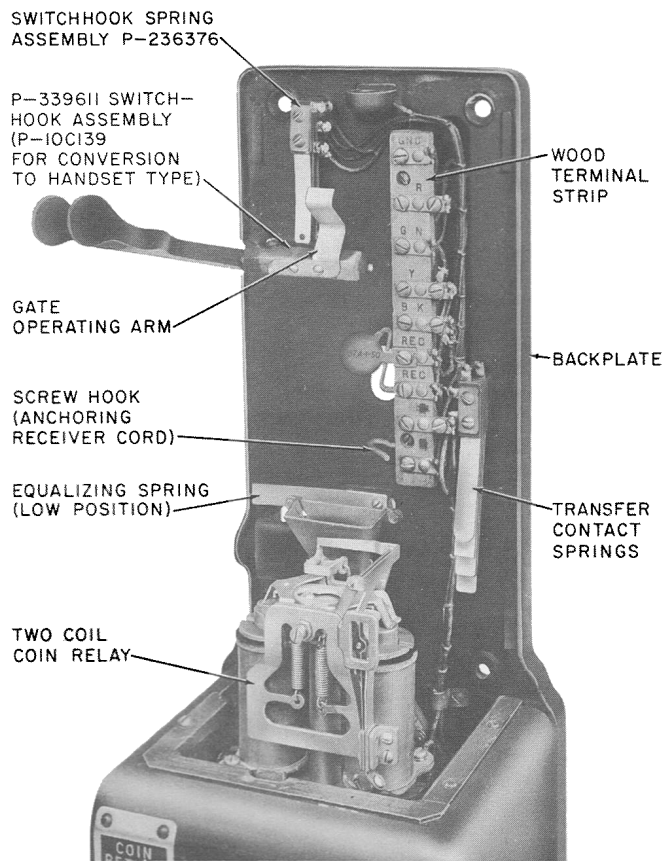
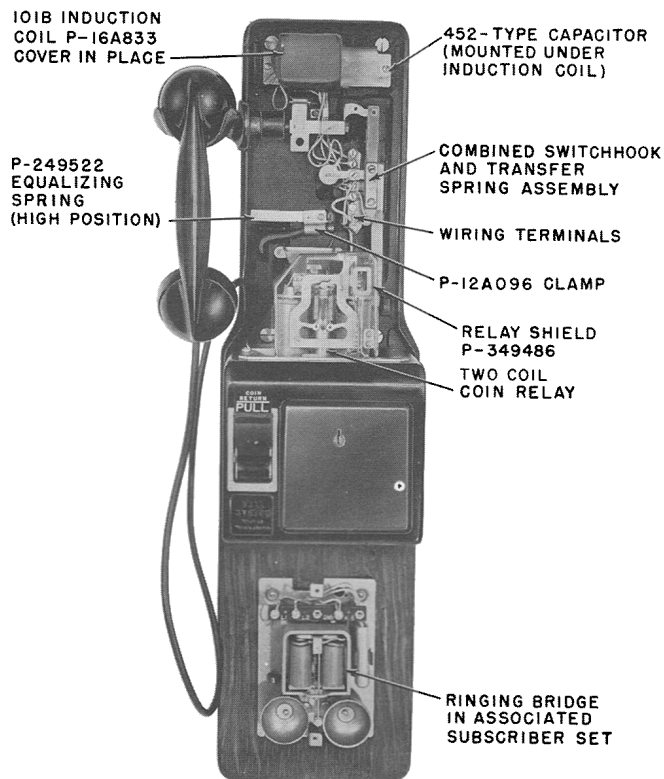

Fig. 4 — Earlier Type Coin Collector With Wood Terminal Strip
Fig. 5 — Combined Assembly — With Induction Coil and Capacitor
2.03 Early coin collectors use a wood terminal strip for station wiring with separately mounted switch hook and transfer spring assemblies (Fig. 4) or a combined switch hook and transfer assembly (Fig. 5).
2.04 The anti-sidetone induction coil and related capacitor of the talking circuit are mounted on the backplate of the 180 and 190 series coin collectors (Fig. 5). Induction coil types prior to the 180 series and all network types prior to the 236-type use an externally mounted subscriber set for both talking and ringing functions.